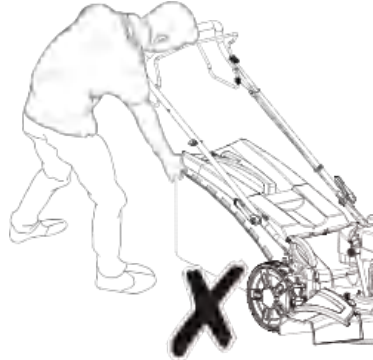

Fig. 20
WARNING! The starting position should be as described in the instruction manual. (Fig. 20 A) illustrates the defined starting position. The operator should start the engine behind the upper handle bar (2). Do not start the engine while standing at the side of the product (see Fig. 20 B.)